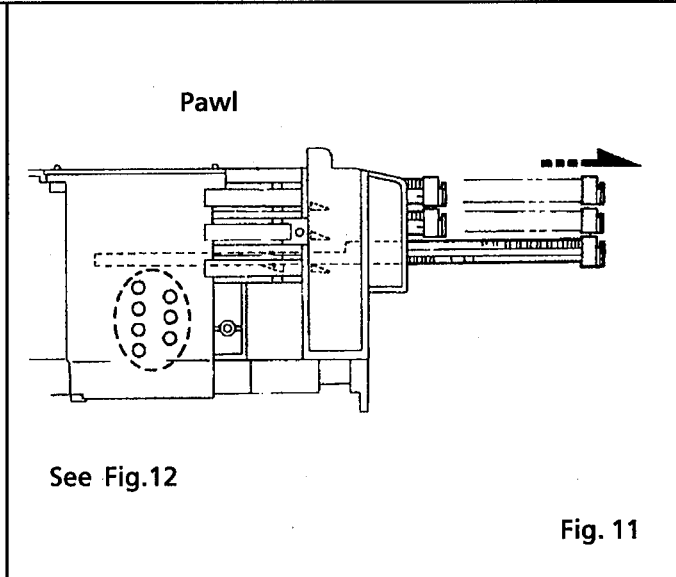

Fig. 11
11. Check that the driver unit elevator is seen from a hole (marked ⑤) on left side of the CD changer mech..(See Fig. 11 and 12.)
13. And, pull all 3 CD tray assemblies forward until they stop. (See Fig. 11.)